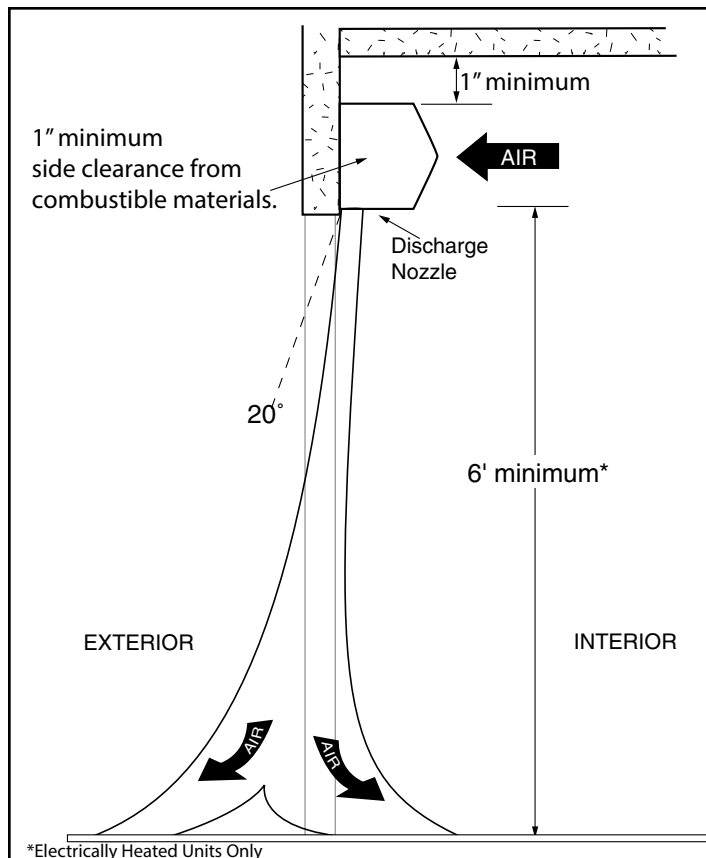

FIGURE 1 - Air Stream
- When determining the mounting location for the unit(s), make sure that nothing interferes with the curtain of air developed when the discharge vanes are directed from 0° to 20° toward the door opening. If the air stream strikes any obstruction (the top edge of the doorway, a door opening device, etc.), the effectiveness of the unit will be greatly reduced. **See FIGURE 1.**